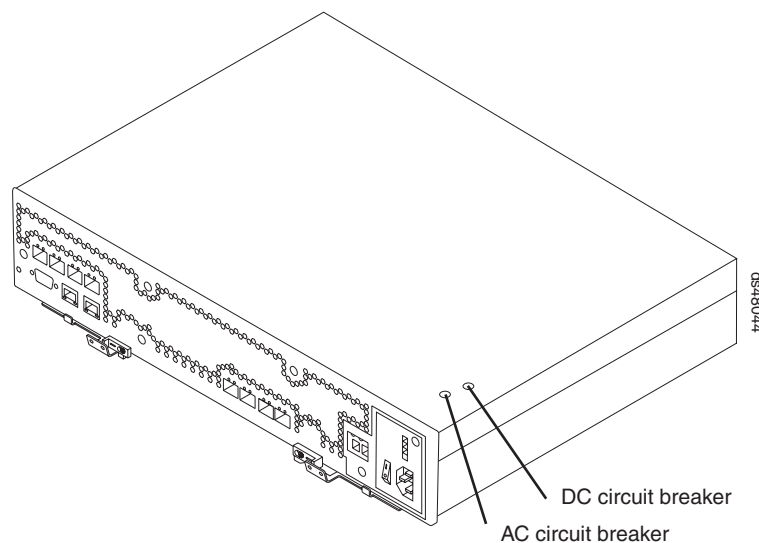

Figure 79. Circuit breaker access holes
8. Insert a nonconducting stylus through the appropriate hole in the cover of the controller and press down gently. One hole is over the AC circuit breaker, a second hole is over the DC circuit breaker. (DC is not currently supported for the DS4800.) Figure 79 shows the location of the circuit breaker access holes in the Controller B cover.
Note: When Controllers A and B are inserted in their respective controller slots in the DS4800, the location of the circuit breaker access holes are as follows. On Controller A, the circuit breaker access holes are located on the left side on the bottom of the controller. On Controller B, the circuit breaker access holes are located on the right side on the top of the controller (as shown in Figure 79).